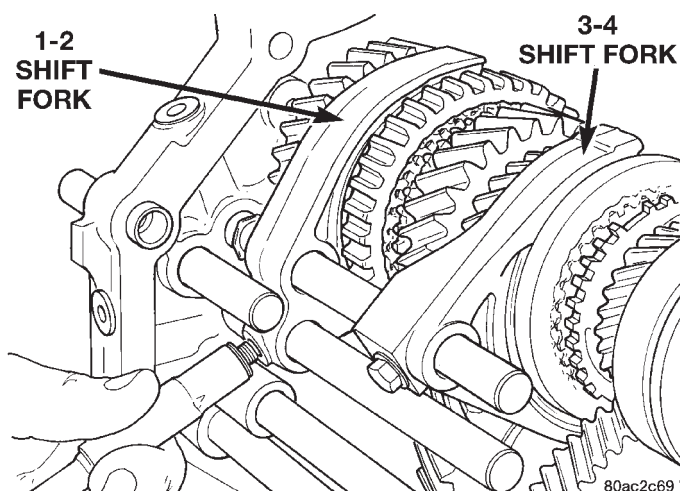

Fig. 59 Remove Shift Fork To Shift Rail Bolts
(12) Remove bolts holding 1-2 and 3-4 shift forks to the shift rails (Fig. 59) and discard bolts.